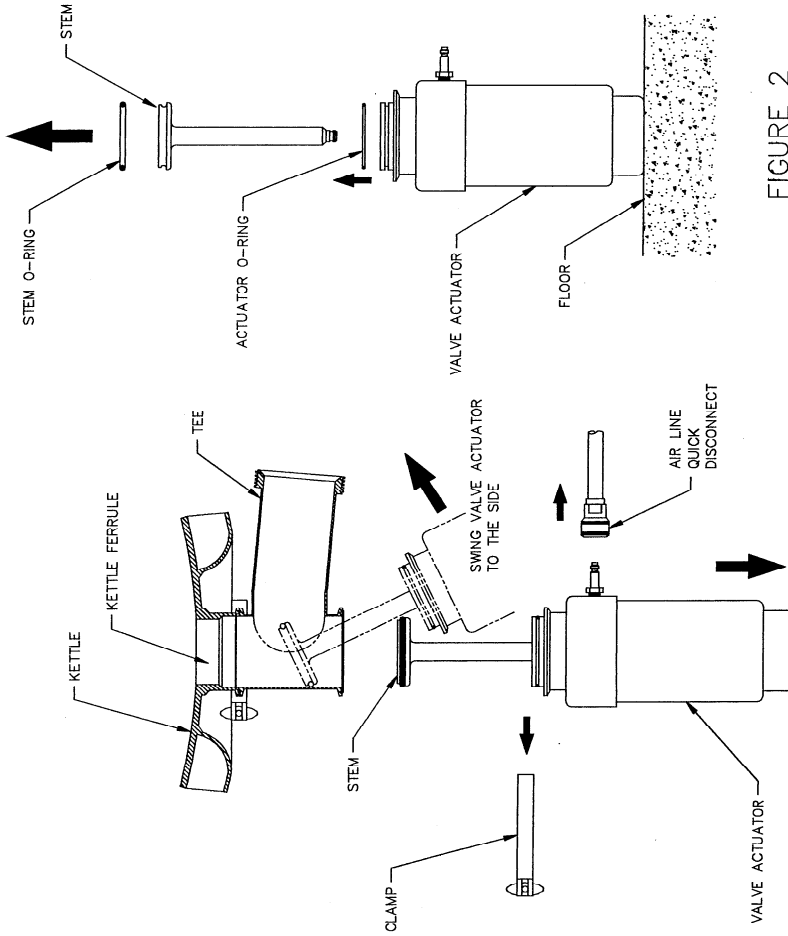
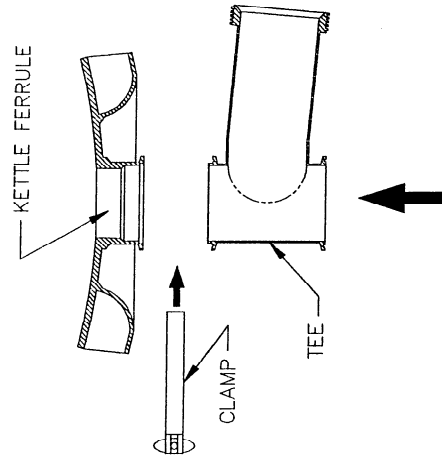

FIGURE 1
FIGURE 2
1. DISCONNECT THE AIR LINE FROM THE VALVE ACTUATOR AS SHOWN IN FIGURE 1.
2. WHILE SUPPORTING THE VALVE ACTUATOR REMOVE THE BOTTOM CLAMP FROM THE TEE, THEN LOWER THE VALVE ACTUATOR AND SWING IT TO THE SIDE UNTIL THE STEM IS CLEAR OF THE TEE AS SHOWN IN FIGURE 1. GENTLY LOWER VALVE ACTUATOR TO THE FLOOR AS SHOWN IN FIGURE 2.
3. REMOVE THE STEM FROM THE VALVE ACTUATOR BY PULLING UP WHILE HOLDING THE VALVE ACTUATOR IN PLACE AS SHOWN IN FIGURE 2. NEXT REMOVE THE O-RING FROM THE ACTUATOR & STEM AS SHOWN IN FIGURE 2.
4. ATTACH THE TEE TO THE KETTLE FERRULE WITH CLAMP AS SHOWN IN FIGURE 2.